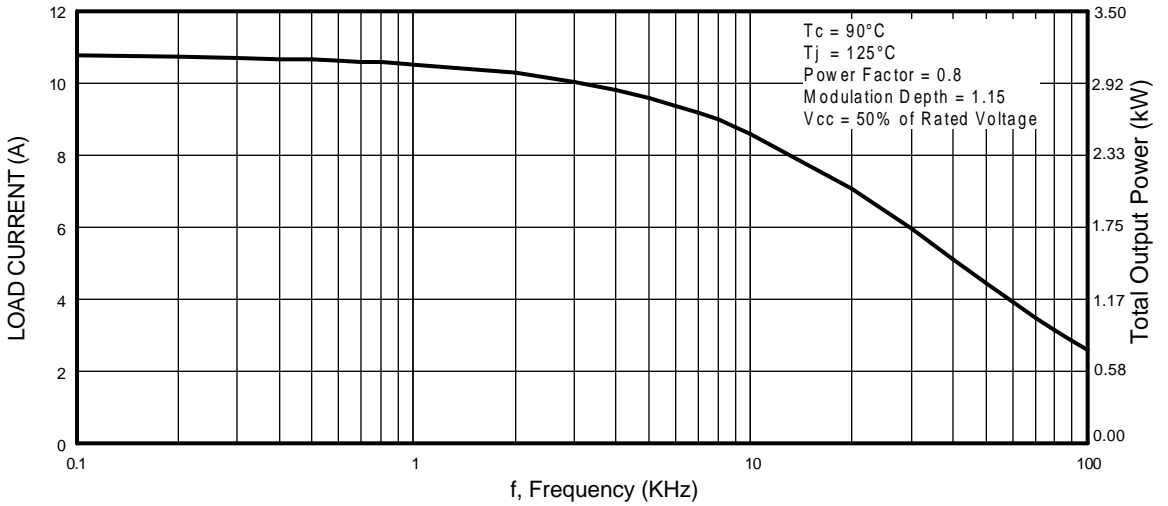

Fig. 1 - Typical Load Current vs. Frequency
- See Fig. 1 for Current vs. Frequency curve
7.1 A_{RMS} per phase (2.1 kW total) with T_C = 90°C, T_J = 125°C, Supply Voltage 360Vdc, Power Factor 0.8, Modulation Depth 115% (See Figure 1)